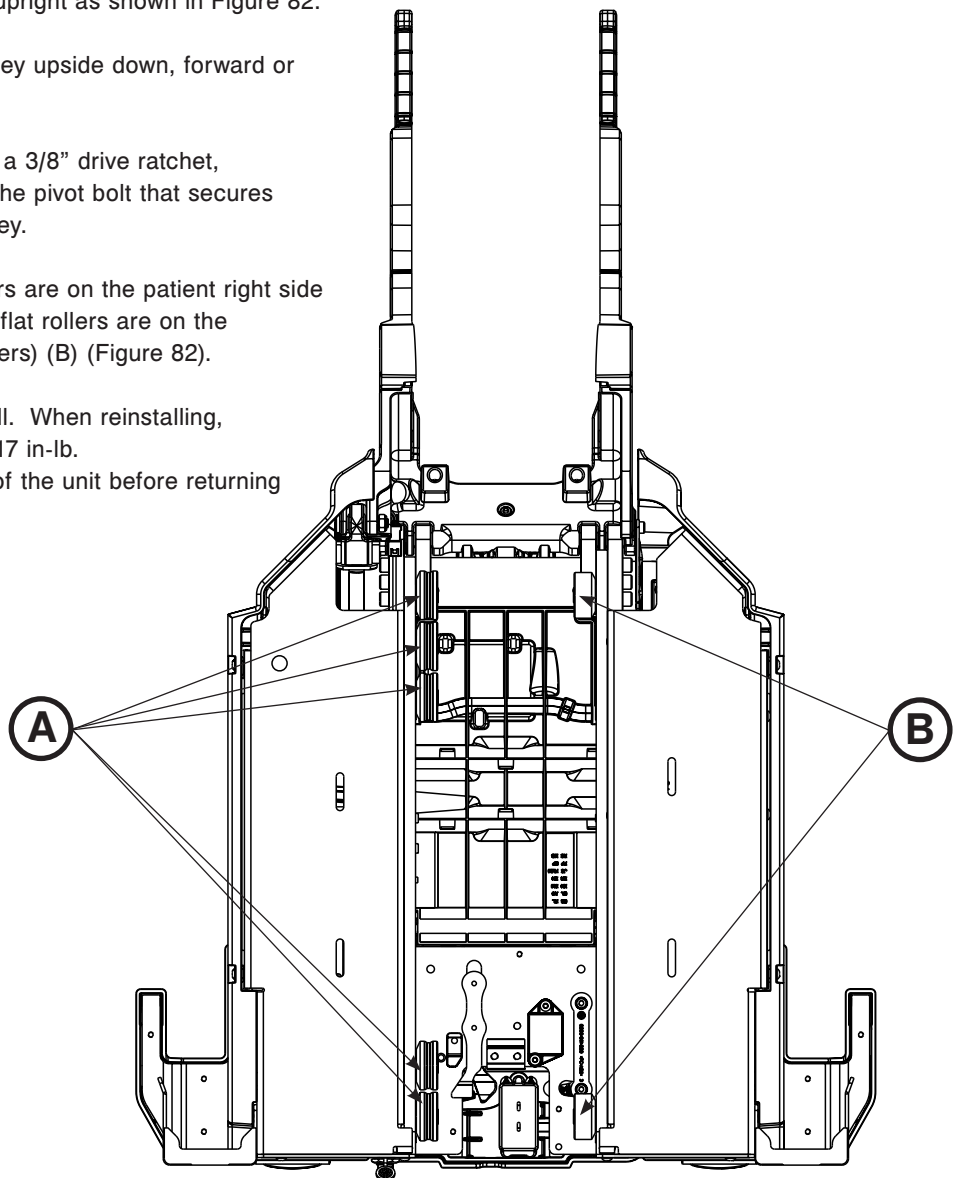

Figure 82
2. Carefully set the trolley upright as shown in Figure 82.
**Note:** The V-guide rollers are on the patient right side (five rollers) (A) and the flat rollers are on the patient left side (two rollers) (B) (Figure 82).